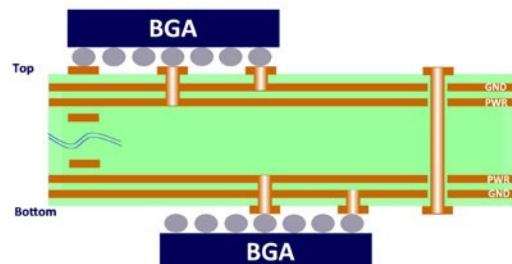

Figure 2: Plane pairs close to BGAs.
- I. Closely couple GND/PWR planes on layers 2 and 3 and the second and third layers from the bottom (Figure 2). This lowers the AC impedance of the PDN and provides low inductance power to the devices.